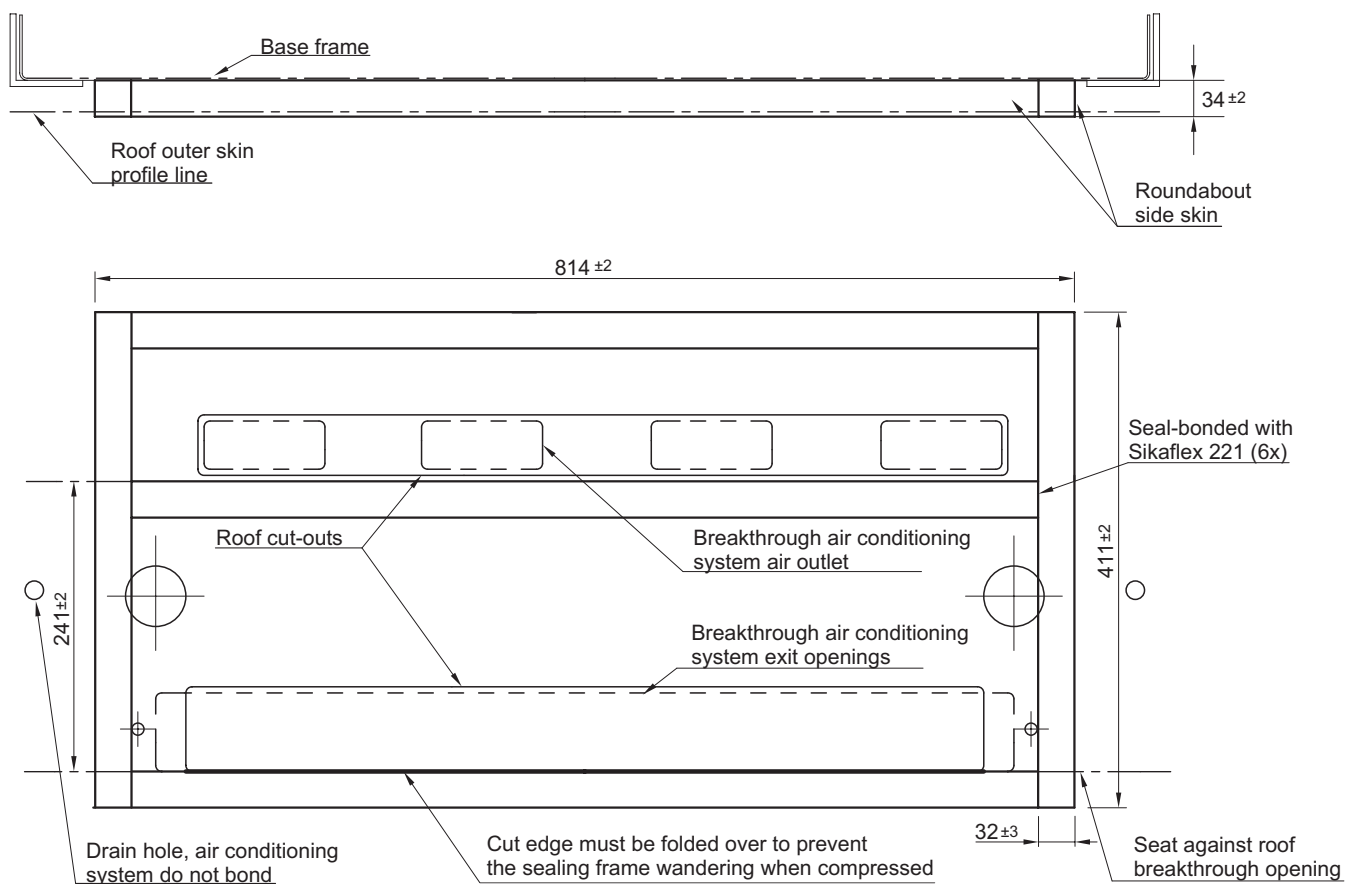

Fig. 407 Weatherseal made from Armaflex/Eurobatex sealing sections
A weatherseal is to be produced using the supplied sealing strips (see Fig. 407) for curved roofs or roofs with beads and channels.
4. Affix the weatherseal to the underside of roof-top unit as shown in Fig. 407 using Sikaflex 221 and leave to cure for approx. 2 hours.